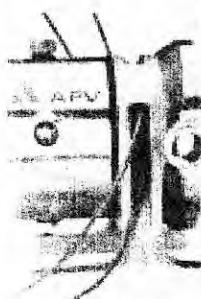

Fig. 11
16. Position the pump housing (46) over the guide pin in the foot (1) and carefully tap into position with a plastic mallet. Check that the hose-ends are positioned between the two rings forming the foot - see fig. 11.
17. Tighten the bolts (7) which fix the pump housing (46) to the foot (1) by the indicated torque - see Section 6.1.
18. Check the shaft seal's contact surfaces (B, D) for dirt and scratches. Mount the stator rings (D) (the stator rings are the longer of the two shaft seal parts) in the pump housing without using tools. The keyways in the stator rings must fit over the grooves in the drive ring (G). Check that it is correctly fitted by feeling for spring power when pushed in over the shaft.
19. Mount the rotors (6) as described in Section 4.2.1.
20. Mount the front panel (11) as described in Section 4.1.1.